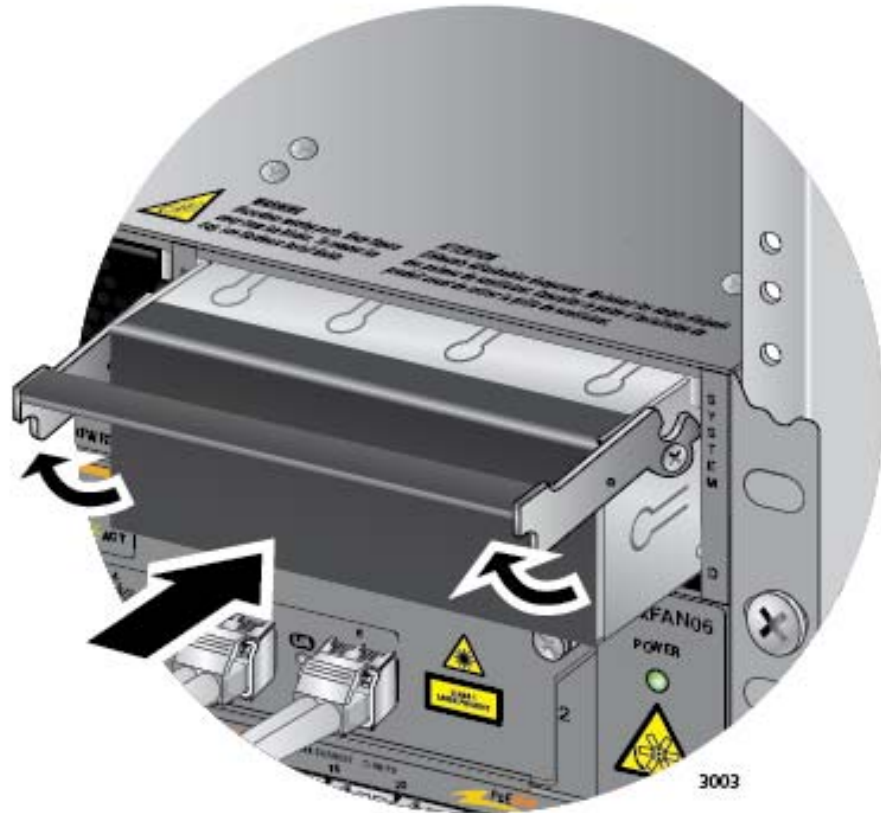

Figure 159. Installing a Blank Power Supply Slot Cover
5. Place the locking handle on the slot cover in the up position and slide the cover into the empty power supply slot. Refer to Figure 159 on page 260.